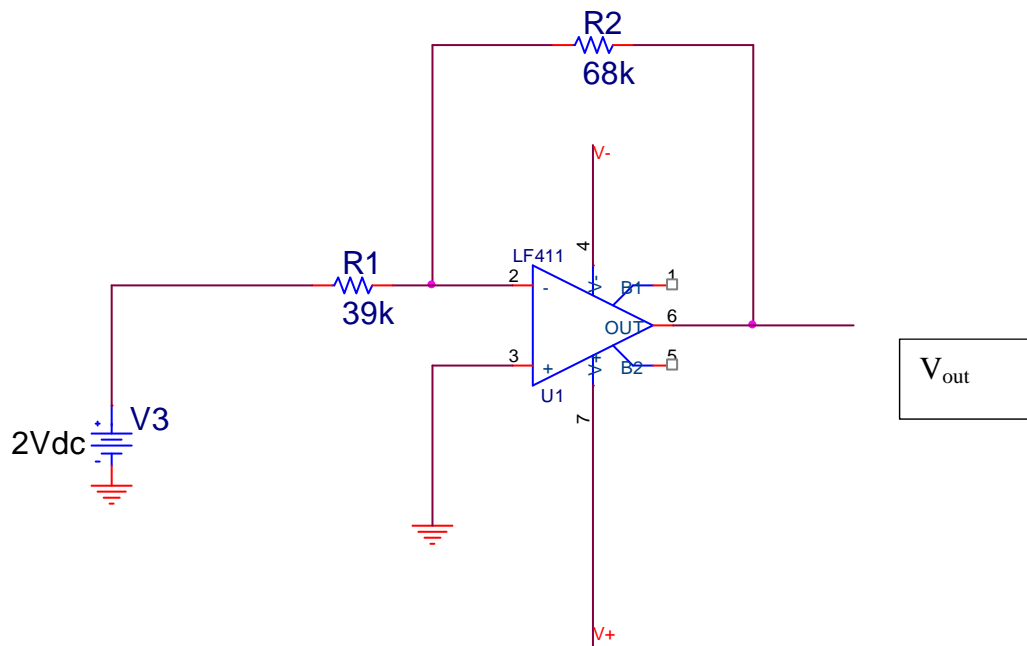

Figure 2_1
1. Simulate the circuit shown in Fig 2_1 using PSpice. Find the output voltage and the current in each resistor.
2. In this part, you will simulate an *integrator*. The integrator circuit is shown in Figure 2_2 below. As we mentioned in the class, the integrator does not need R2, we have to add it for practical consideration.